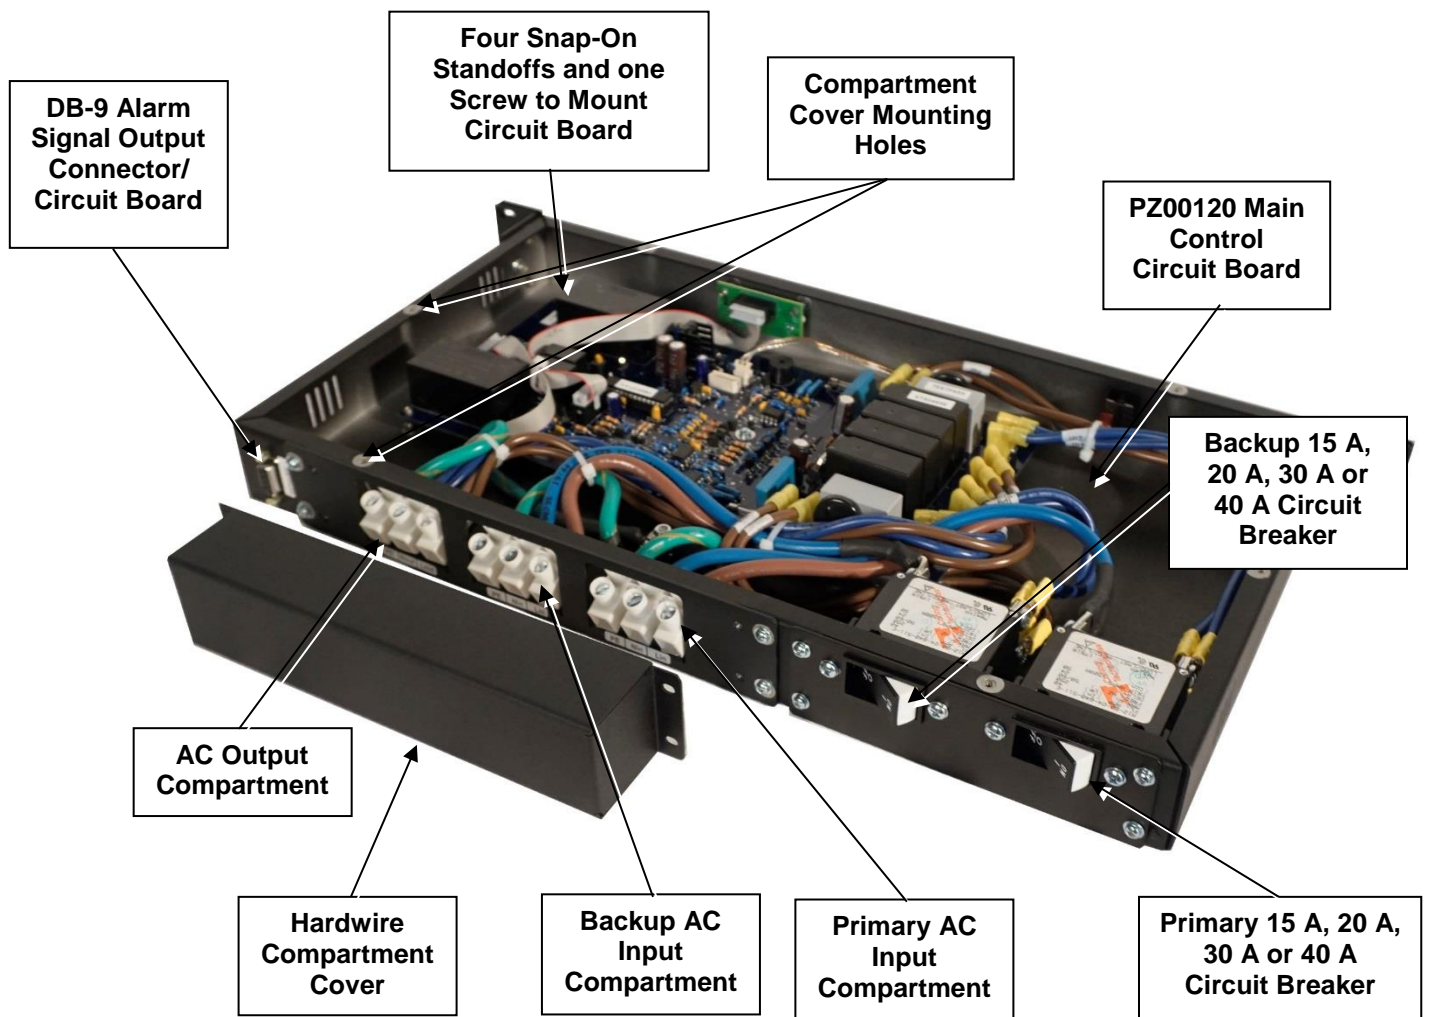

Figure 8: Top-Down Rear view showing Hardwired ATS-800 with top-cover removed
1.71 TOP VIEW WITH COVER REMOVED (See Figure 8)
⚠ DANGER: If the unit has already been installed and prior to the removal of the top cover, make sure that both the **PRIMARY** and **BACKUP INPUT CONNECTORS** in the back of the unit have been disconnected and that the up-stream Primary and Backup AC sources are de-energized (switched OFF) - (See Figure 8).
Two main control circuit boards are used in the ATS Series. The PZ00120-5 is used in the 2000, 3000, 4000, 5000, 6000 and 7000 models, while the PZ00127-5 is used in the models 8000 and 9000. The circuit board assemblies are mounted to the chassis by means of four (4) snap-on standoffs and one M3x0.5 Screw, see Figures 8, 10 and 11.
Signals can be transmitted by means of the DB-9 connector in the rear of the ATS unit that provide . for remote monitoring of alarms. See Figures 8 and 13. Pin assignments are outlined in section 4.3.